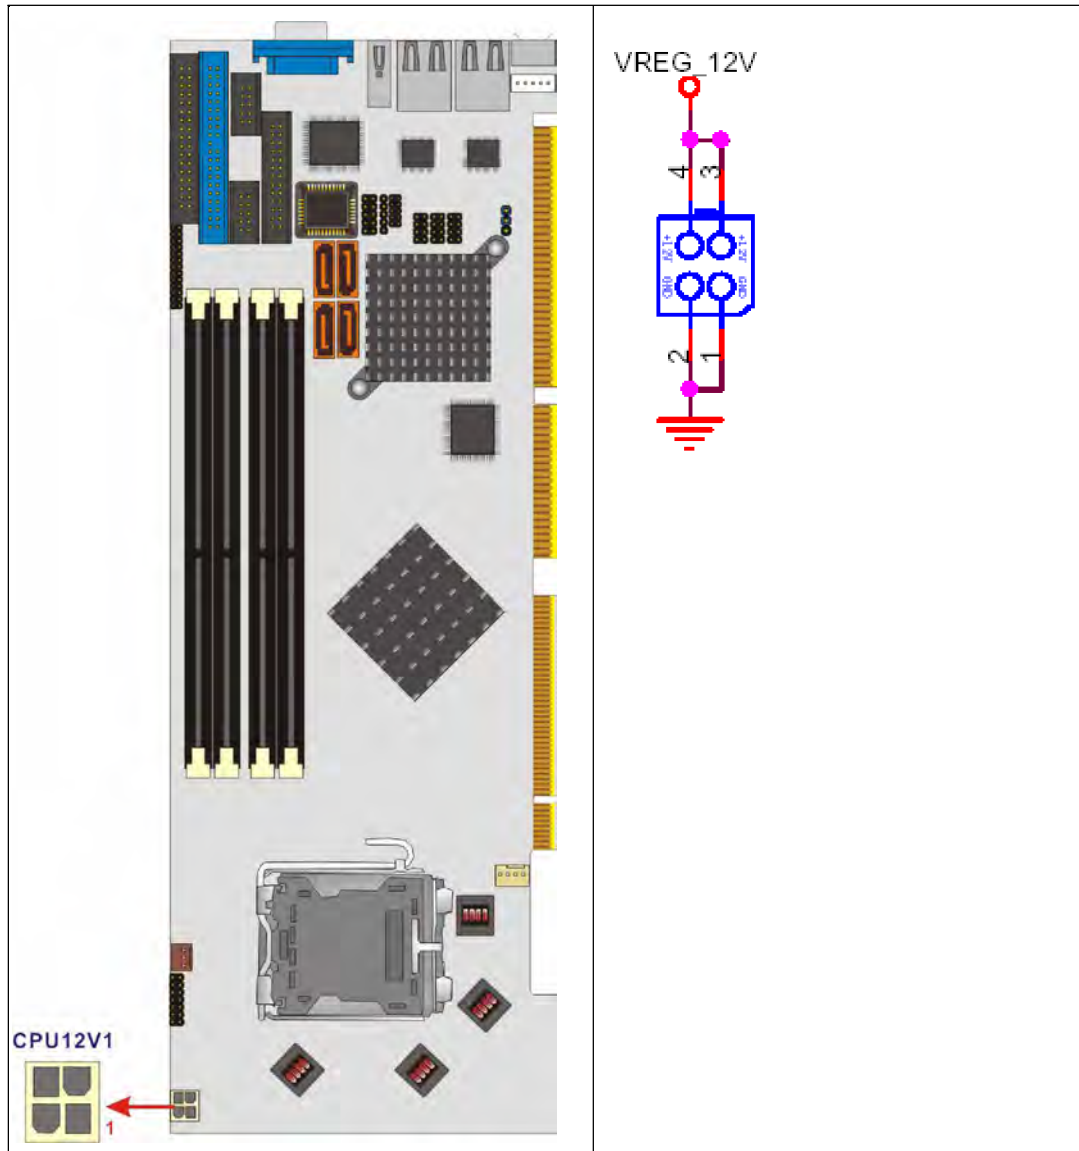

Figure 3-2: ATX-12V Connector Location
- CN Location:** See **Figure 3-2**